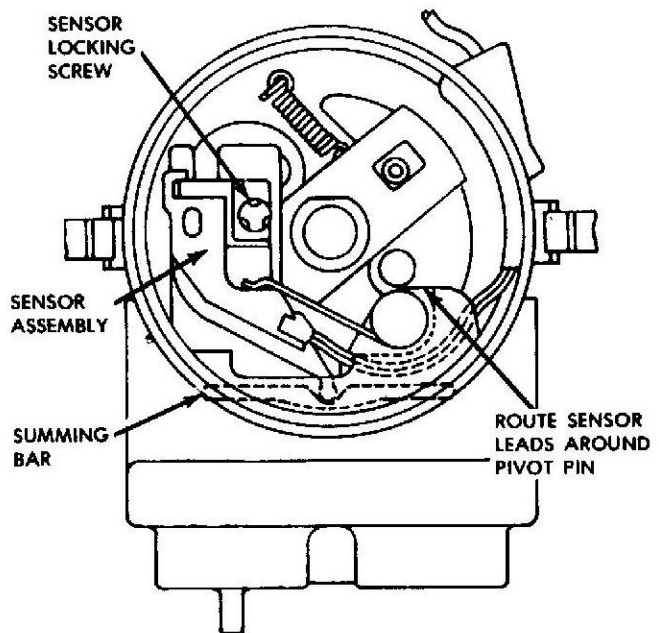

Fig. 2 Sensor Removal
- (4) Lift sensor lead grommet out of distributor bowl. Pull sensor leads out of slot around spring pivot pin. Lift and release sensor spring, making sure it clears leads, then slide sensor off of bracket (fig. 2).
(5) Install replacement sensor assembly on vacuum chamber bracket, making sure that tip of sensor is located properly in summing bar (fig. 2).
(6) Install sensor spring on sensor.
(7) Route sensor leads around spring pivot pin.